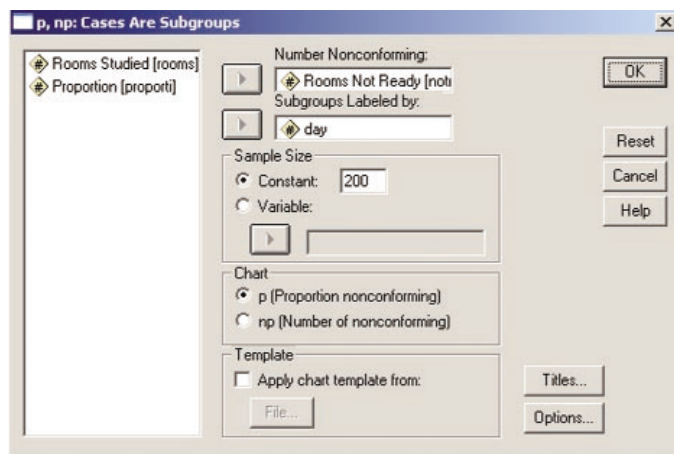

FIGURE A18.7 SPSS p , np : Cases Are Subgroups Dialog Box
2. In the p , np : Cases Are Subgroups dialog box (see Figure A18.7), enter **Rooms Not Ready** in the Number Nonconforming: edit box and **day** in the Subgroups Labeled by: edit box. Under Sample Size, select the **Constant**: option button, and enter **200** in the edit box. Click the **OK** button.